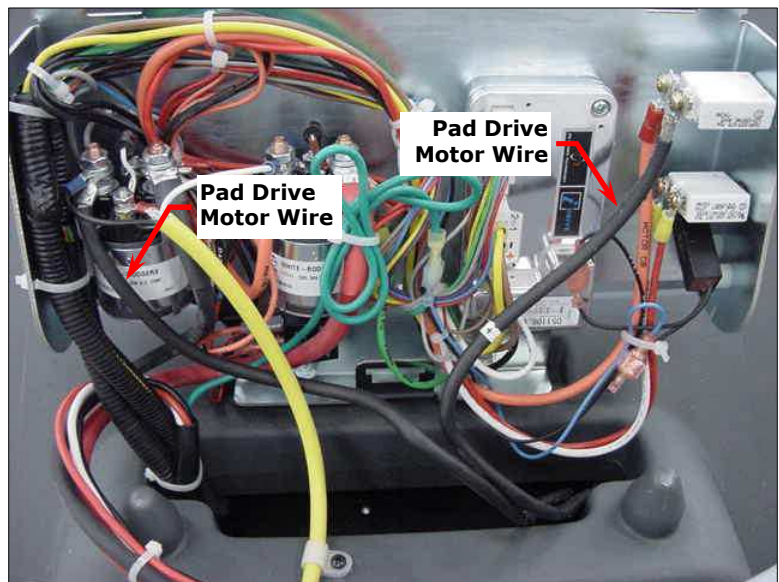

Figure 13 – Pad Drive Motor Wires
5. See Figure 13. Disconnect the pad drive motor wires.